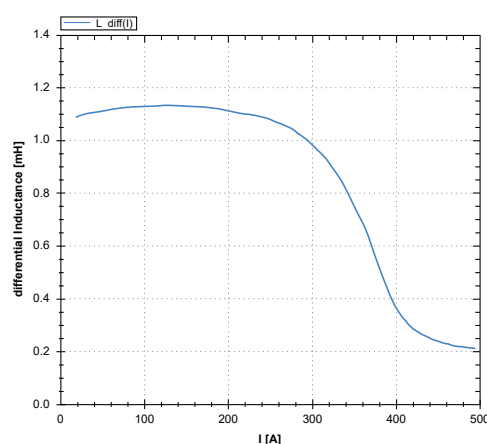

Figure 2: Diagram of the differential inductance  $L_{diff}(i)$  of a filter reactor
- Differential inductance  $L_{diff}(i)$  (Figure 2) and  $L_{diff}(fUdt)$